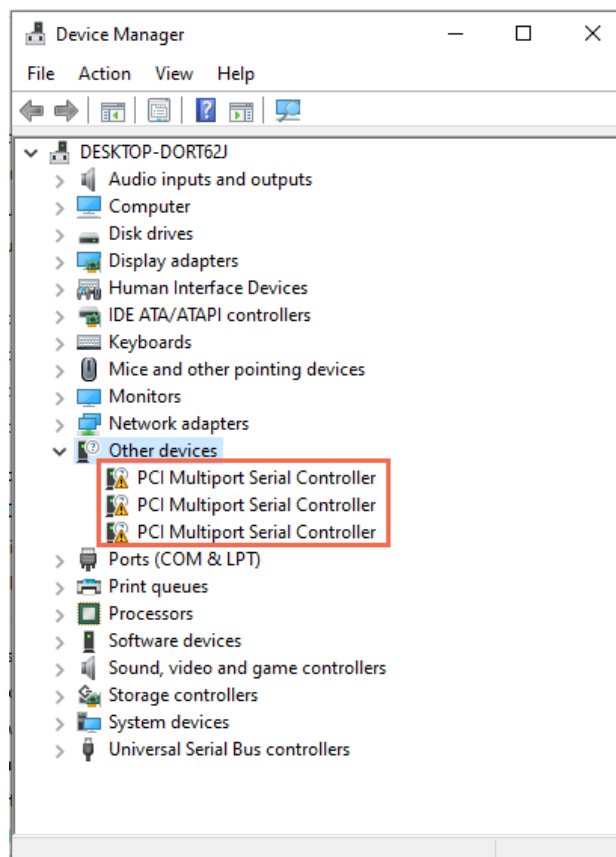

Figure 5.23. Device Manager
1. Open **Device Manager**, which shows the connected PCIe devices, as shown in Figure 5.23.